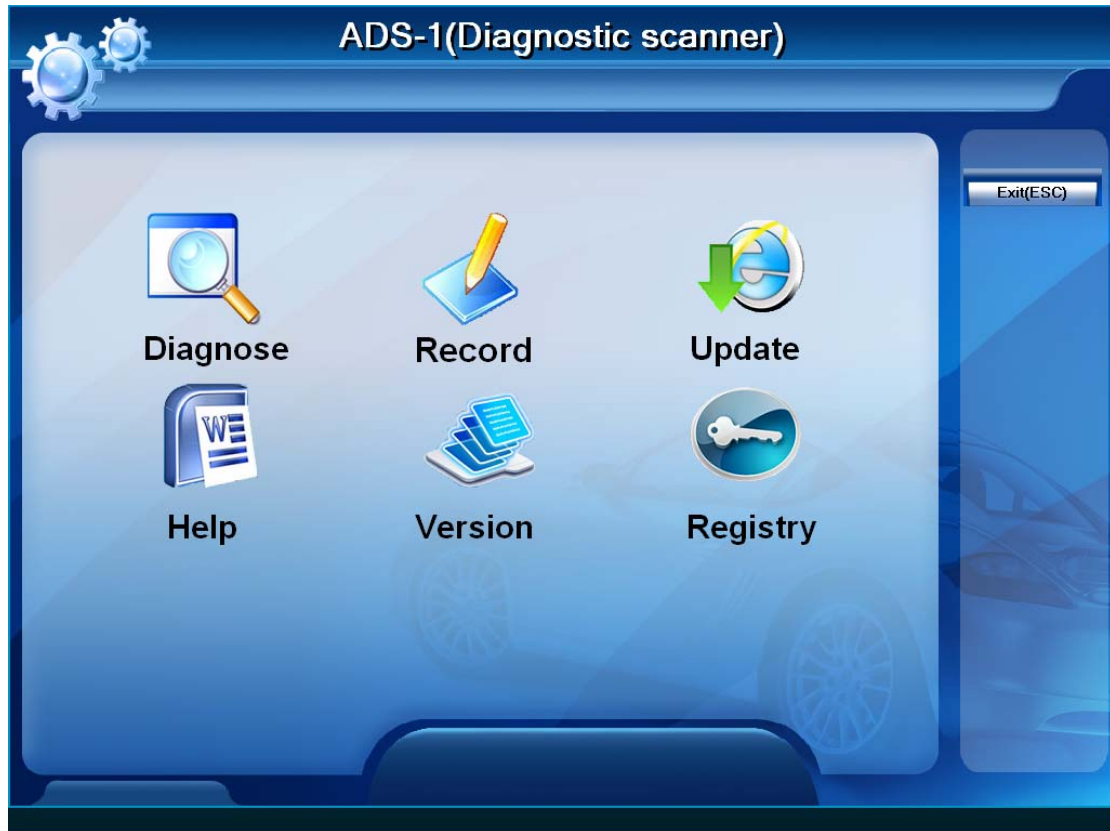

Figure-32
32. Click "OK". If you want to scan the records just stored, you have to come back to figure-32